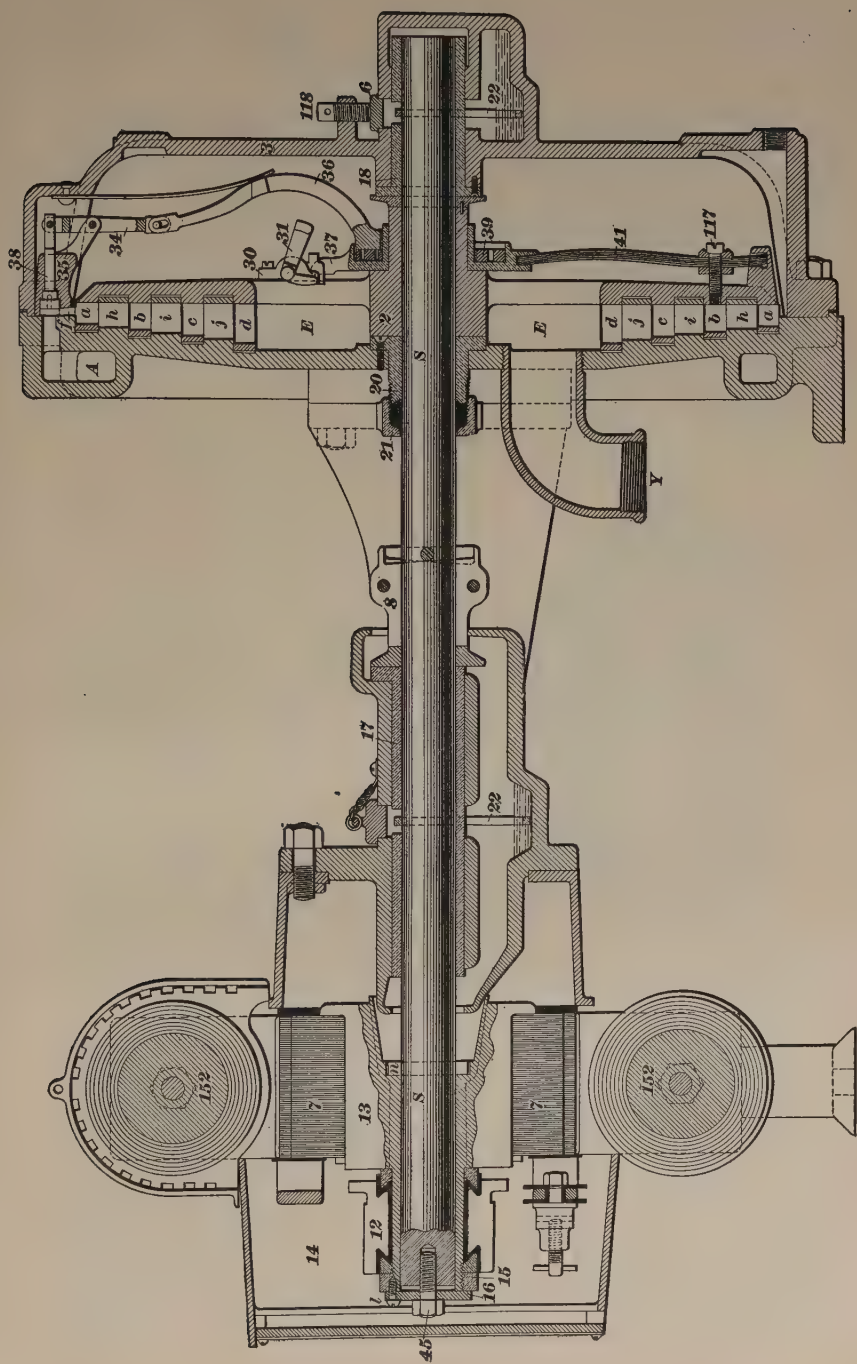

FIG. 1
In Fig. 1 is shown a vertical section, cut lengthwise through the machine, from which a very good idea of the construction and relative positions of the parts can be gained. The turbine wheel on the right, marked 2, is fastened solidly to the main shaft *S* and contains four sets of buckets. The outer set *a* is at its extreme outer diameter, while the three remaining sets of buckets, marked *b*, *c*, and *d*, respectively, also in circular form, are inside the outer row. Each row of buckets, beginning with the row *a*, has a gradually decreasing speed, the peripheral speed of the last row *d* being but 4,000 feet per minute against 7,200 feet per minute on the outer row. The steam entering at *A* passes through two ports *f* in the governor stand 35, strikes the face of the first row *a* of buckets, and as the wheel moves forwards, it allows the steam to exhaust or pass through the bottomless buckets into a series
5. The Engine Governor.—The governor, Fig. 1, is of the well-known centrifugal type. The weights *31* (two in number) are simple bell-cranks that are connected to the wheel by the clamp *30*. The shorter end of the bell-crank *31* extends beneath the centerpiece *37*, as shown, and moves it out when the centrifugal force exerted on the longer end of the bell-crank is sufficient to overcome the tension of the governor springs *41*. This spring regulates the speed of the engine; the more rigid the spring, the more difficult is it for the weights, acting through the medium of the centerpiece *37*, cross-arms *36*, and connecting link *34*, to close the plunger valve *38* and thus partly throttle the admission of live steam through the ports *f* in governor stand *35*. Between the centerpiece *37* and the cross-arms *36* is the bearing ring *39*—a bronze ring filled with graphite. The graphite serves so well as a lubricant that, after several months' service, no appreciable wear can be noticed on the parts affected. The bushing *18* serves as a bearing to carry the steam end of the main shaft, the familiar oil ring *22* lifting the oil out of the oil cellar to the top of the shaft, where it passes to the bearing proper. Lateral motion is prevented by the end thrust *8* resting on bushing *17*, provision being made for taking up possible wear at this point. The bushing *17* serves to support the dynamo end of the main shaft,
On the later makes of turbine engines there is applied a centrifugal brake shown in connection with Fig. 1. This brake is placed on the back side of the spoke of wheel 2 and
6. General Description.—In the construction of the dynamo, particular effort was made to simplify all parts as much as possible. The armature 13, Fig. 1, is held in place on the engine shaft *S* by the nut 15, screw 45, and washer 16, all of which are prevented from working loose by means of a smaller screw *l* in the outer edge of the washer. The armature is caused to rotate with the shaft by means of a
The casing 14, Fig. 1, protects the dynamo from dust and rain in the summer and snow and ice in winter.
7. To insure a sufficient quantity of dry steam, the steam connection to the boiler should be 1 inch in diameter and the steam should be taken from the highest part of the dome. If the apparatus is placed just in front of the cab, the steam-supply pipe should be covered with suitable lagging, or, if placed close to the stack, it is advisable to run the steam-supply pipe under the jacket to avoid condensation. The turbine must have dry steam. If the pipe is not put under the jacket, it will be well to run it just inside the hand railing and on a line with it, in preference to carrying it down to the running board and then up again, as with the last-mentioned mode of piping it is impossible in cold weather to deliver steam to engine in proper condition. The exhaust pipe leading from *Y*, Fig. 1, to the smokebox of the locomotive should be $1\frac{1}{2}$ inches in diameter, and the discharge end should be about flush with the top of nozzle tips in front end. If a 2-inch pipe is used inside the front end, the exhaust will make less noise and will have a lighter action on the fire.
8. Though there are no wearing surfaces inside the engine to lubricate, an oil plug is placed in the top of the engine; this should be removed about once a week and three or four tablespoonfuls of engine oil poured in. This oil is not to lubricate the parts, but to serve as a preventive of corrosion. Mineral oils will remove and prevent rust much better than animal oils; hence, mineral oils alone should be used for this purpose. The main bearings 17 and 18, Fig. 1, carrying the weight of the turbine wheel, armature, commutator, and shaft, require the best grade of oil, the heavier quality cylinder or valve oil being best adapted to this
service. Care should be taken not to fill the inside bearing 17 too full, as it will be thrown out of the end of the cellar on to the armature by the motion of the locomotive, and oil injures and eventually will ruin the armature. A quantity of oil sufficient to reach the ring 22 best answers the purpose; the ring carries it to the top of the shaft and the surplus falls back into the cellar. The outer bearing 18 should be filled each trip to about the height indicated in Fig. 1, and the plug 6 should be tightened down by the screw 118, as exhaust-steam pressure reaches the oil supply in this bearing.
9. Ordinarily, to obtain the proper results from the dynamo, a speed of 1,800 revolutions per minute should be maintained. With some dynamos, however, a speed of 1,900 or 1,950 revolutions per minute may be necessary, this variation being due to differences in the dynamos. To increase the speed of the engine, tighten the screws 117, Fig. 1, that govern the tension of the springs 41; to decrease the speed, slacken the screws. Every half turn of the screws, ordinarily, will increase or decrease speed about 50 revolutions per minute, but care should be taken to change all screws alike.
dynamo to the lamp. If the speed increases to 2,500 revolutions or over, it indicates that the plunger valves 38 are cut and need refacing, so as to make a new and tight seat. This test should be made monthly to prevent the valves wearing to a condition that will admit of such high speed as to cause the fracture of the moving parts by centrifugal force. When engines are first put into service, particles of scale or molders' sand, which it is impossible to entirely remove, work in and cause the valves 38 to stick, interfering with the functions of the governor; the upper valve suffers most from obstructions of this nature. To overcome this trouble, it is advisable, after running the engine 2 or 3 hours when first set up, to take off the cap 3, Fig. 1, and remove any dirt, scale, or sand that may have accumulated. If this is repeated on completion of first two or three trips, all danger from this source will be eliminated and no further trouble will result.